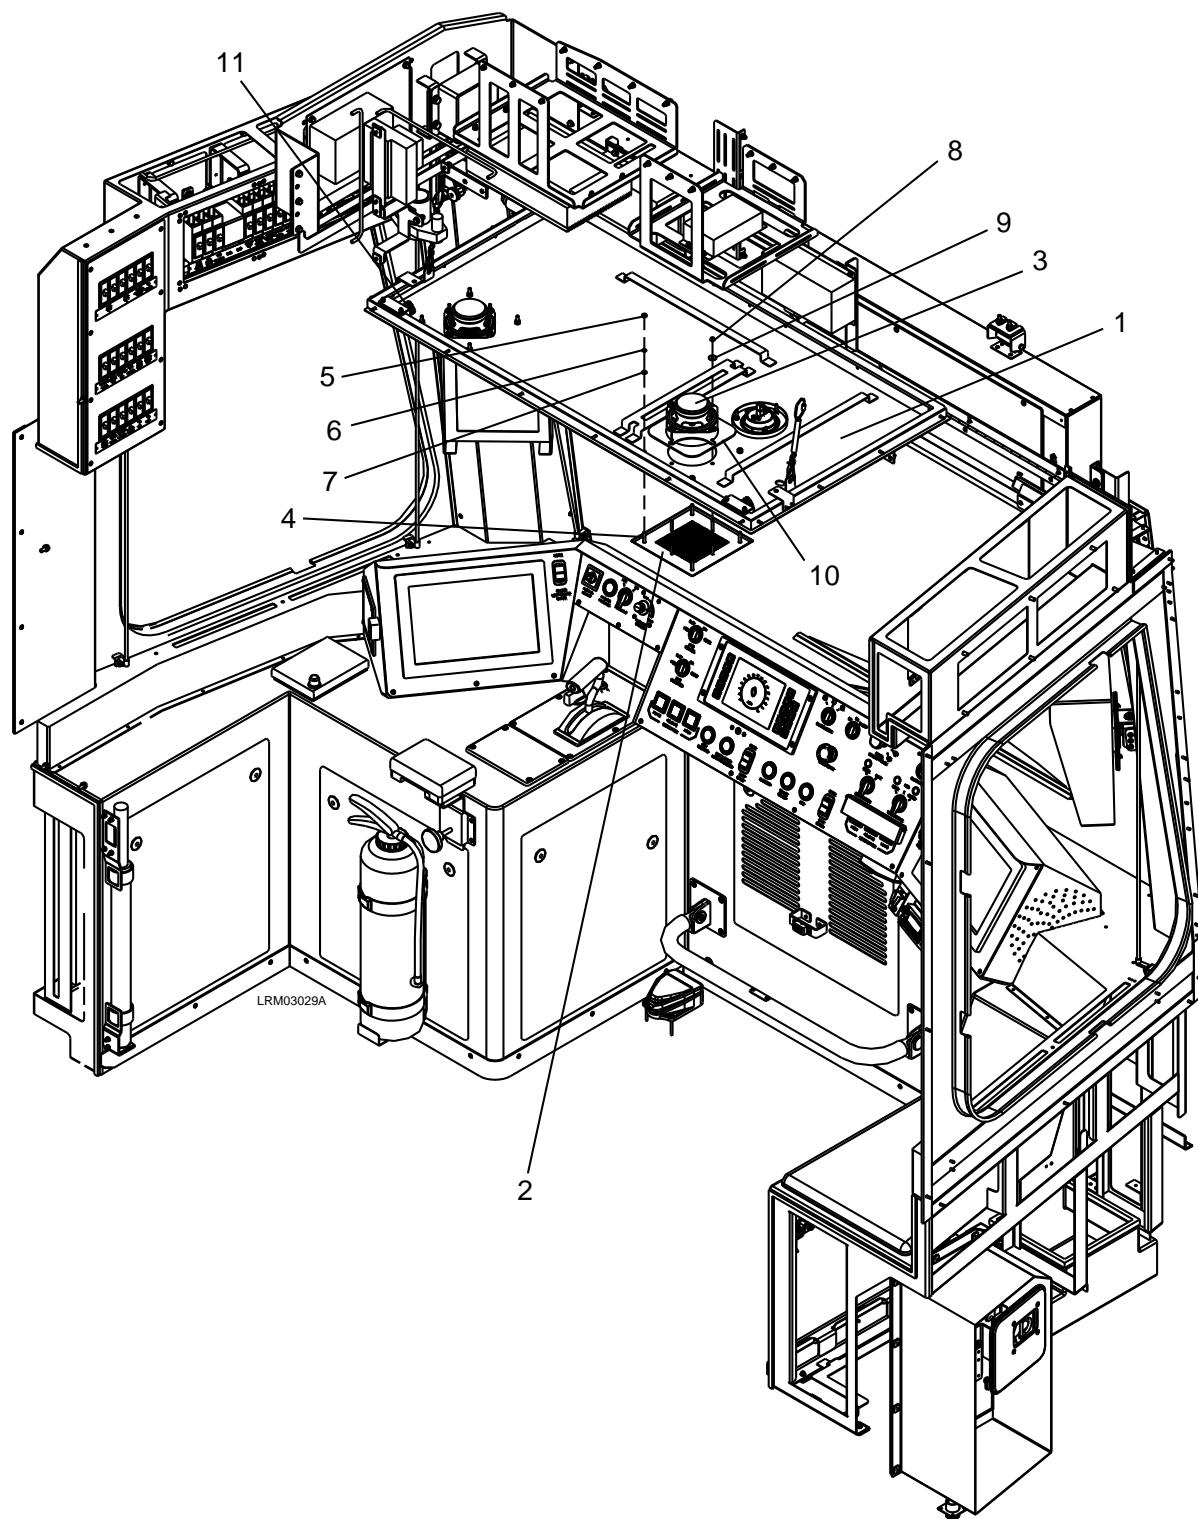

Figure 7-25: Cab Speaker
1. Unlock the two locks (11) and lower the cab ceiling panel (1) to access the cab speaker hardware and disconnect the 1/4" Faston electrical connections. See Figure 7-25.
2. Remove the four M6 hexagon nuts (5), M6 lock washers (6), M6 plain washers (7), and M6 x 20 screws (4).
3. Remove the speaker grill (2).
4. Remove the four lock nuts (8), and plain washers (9).
5. Remove the speaker (3).
6. Remove the speaker gasket (10).